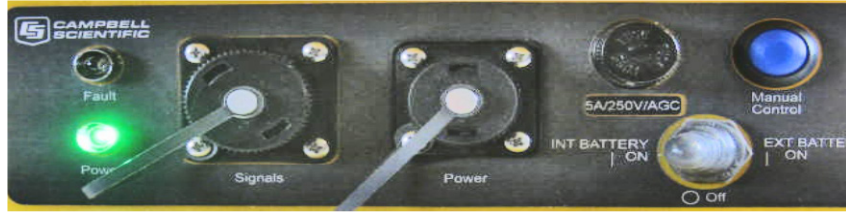

FIGURE 7-3. Control panel
- b. If using an external battery, make sure the external power cable is stripped and the correct leads are in place to connect the battery. Connect the external power cable to the **Power** connector on the Control Panel (FIGURE 7-3).
5. Turn on the sampler and set the three-way switch on the control panel to the power source being used (FIGURE 7-3). If powered correctly, the green power LED lights for several seconds and starts blinking green once per second.
9. If you do not know the necessary purge times, run the Auto Deploy routine by pushing and holding the Manual Control button until the sampler begins running (approximately 5 s (FIGURE 7-3)). The Auto Deploy routine sets the purge and the vacuum times based on the length of the hose and the change in height between the sampler and the water source. Wait for the sampler to stop before proceeding to Step 10.
11. Push the Manual Control button once (FIGURE 7-3) to Service the sampler and reset the sample count to 0.
13. If controlling the sampler with a datalogger or another external device, connect the PVS5120CBL cable to the **Signals** connector on the Control Panel (FIGURE 7-3), and then wire the cable to the datalogger or MD485. Wiring is specific to a given control type. Please see the section on your control type for wiring directions.